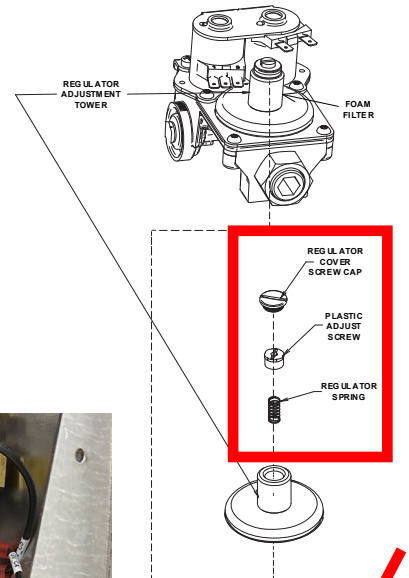

Figure 13
- 19) Remove gas valve regulator adjustment cap and adjustment screw and **RED** natural gas spring from **BOTH** of the gas valves (see Figure 13).
- 29) Remove the regulator cover screw cap (see Figure 13).